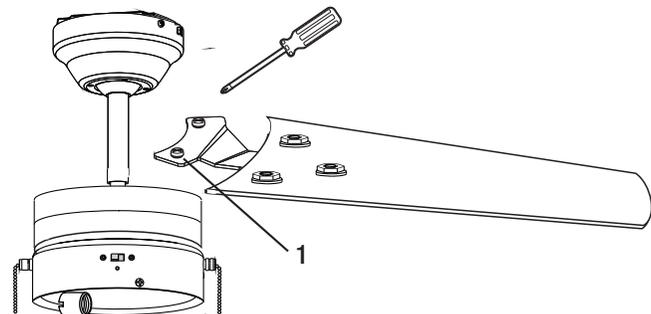

Figure 13
- Position the blade holder (D) above the motor such that the 2 pre-installed screws on the blade holder fits into the holes in the motor (Figure 13). Tighten the pre-installed blade holder screws (1).